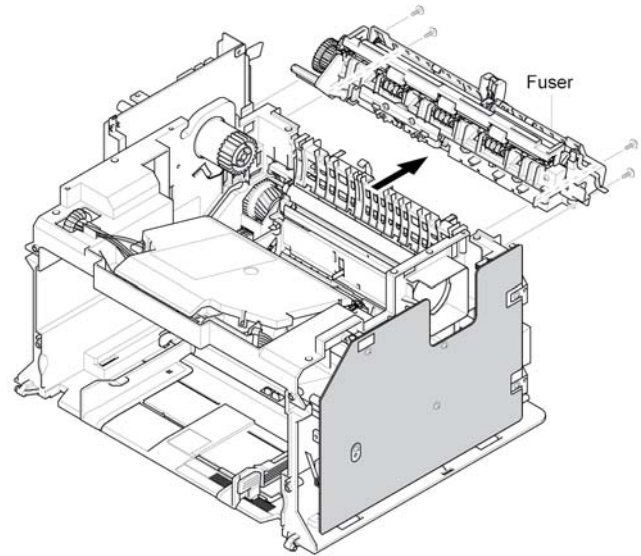

Figure 2
4. Remove 4 screws securing the fuser and remove it, Figure 2.